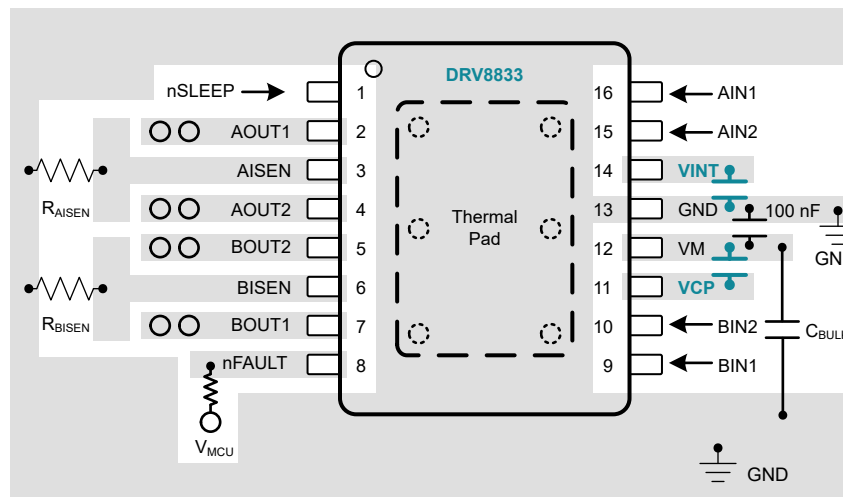
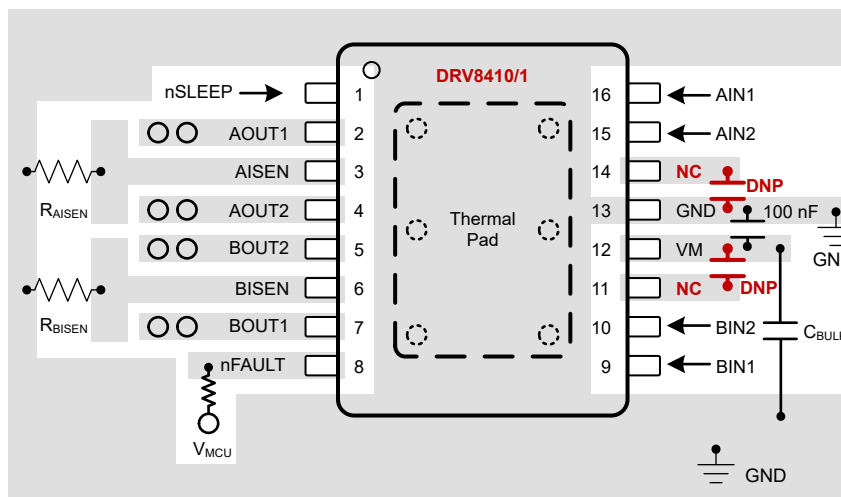

图 10-19. DRV8833 Layout Example
图 10-20. DRV8410/1 Footprint Compatible Layout Example
- DRV841xPWP can use the same footprint as DRV8833 and DRV8833C in the HTSSOP package as shown in 图 10-19 and 图 10-20.